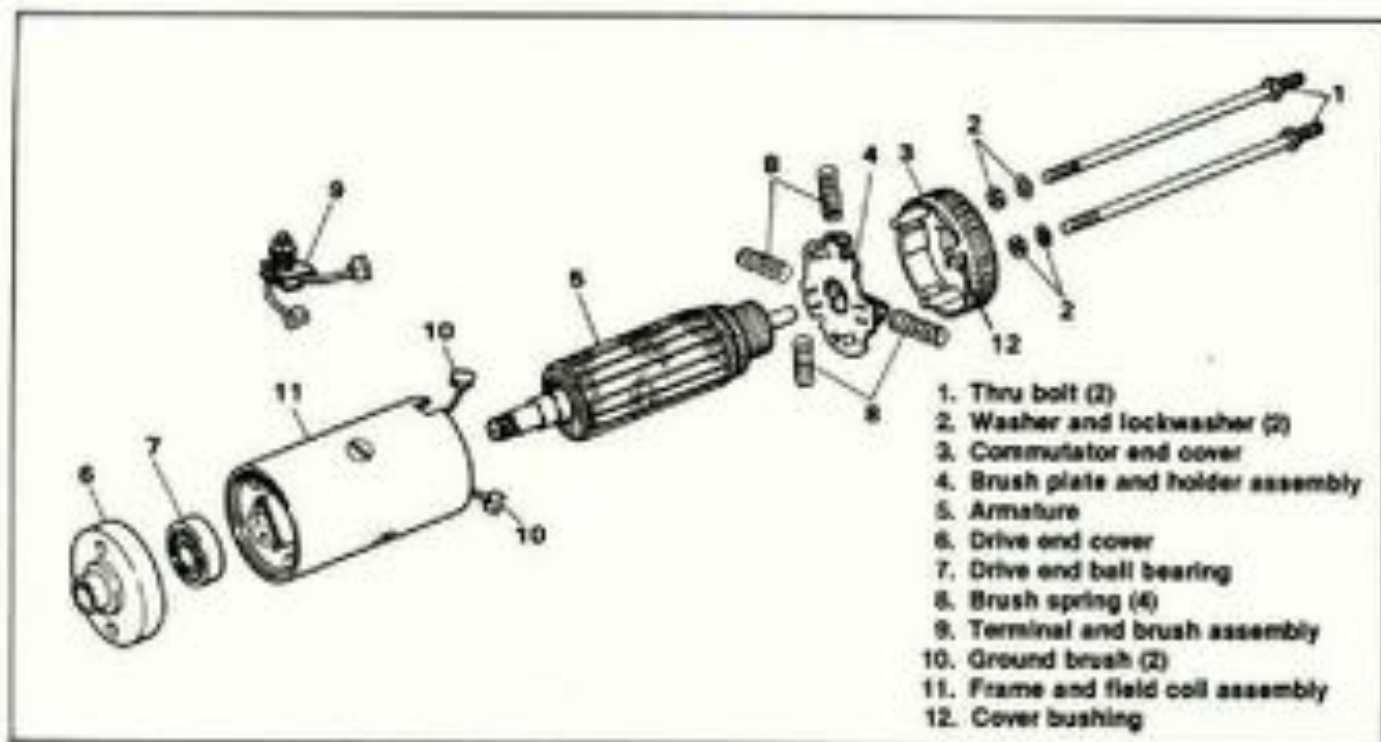

Figure 5-4. Starter Motor
### DISASSEMBLY (Figure 5-4)
10. Inspect the bearing (7, Figure 5-4). If it is worn or loose, replace it.
11. Inspect the bushing in the commutator end cover (12, Figure 5-4) and the corresponding bearing surface of the armature shaft. If the bushing is worn, replace the commutator cover. If the armature shaft is worn, replace the armature.
3. See Figure 5-4. Install the armature (5), bearing (7)